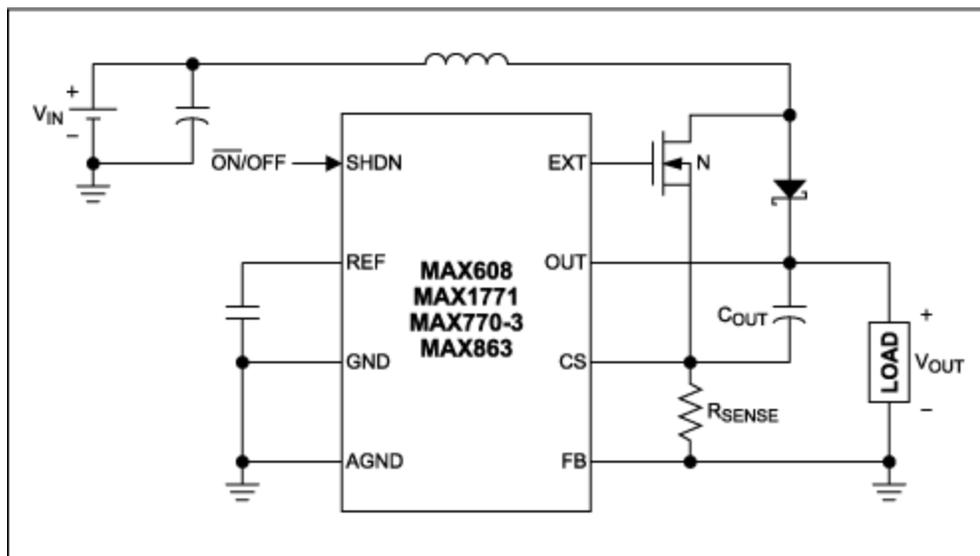

Figure 1. Connecting the C_{OUT} capacitor to CS instead of ground causes load-dependent current limiting, which reduces I^2R loss.
A simple modification to the standard application circuit for a high-efficiency PFM boost controller (**Figure 1**) yields even higher efficiency. By increasing the value of R_{SENSE} and connecting the output filter capacitor to the current-sense pin (CS) instead of ground, the circuit's current limit is made dependent on load current. The result is lower I^2R loss (in the inductor, MOSFET, and output-capacitor ESR), which gives better efficiency for light-to-medium loads.